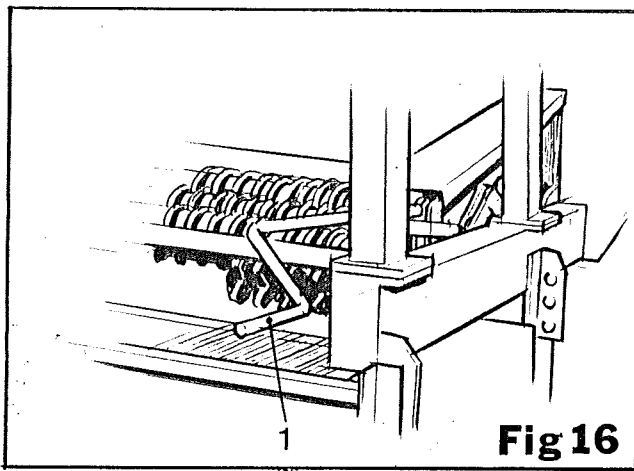

Fig 16
A separating unit can be fitted in place of the transfer web. The separator unit can either be in the form of stars or coils. Both separator units have been designed so that the centres of the coils or stars can be adjusted (see fig 16). To adjust turn the handle (item 1, fig 16). The distance between the coils or stars is dependent on the crop condition and the amount of clod to be removed. The larger the distance, the larger the clod that will be removed. If the centres have been set to wide then there is a possibility that small potatoes will be lost